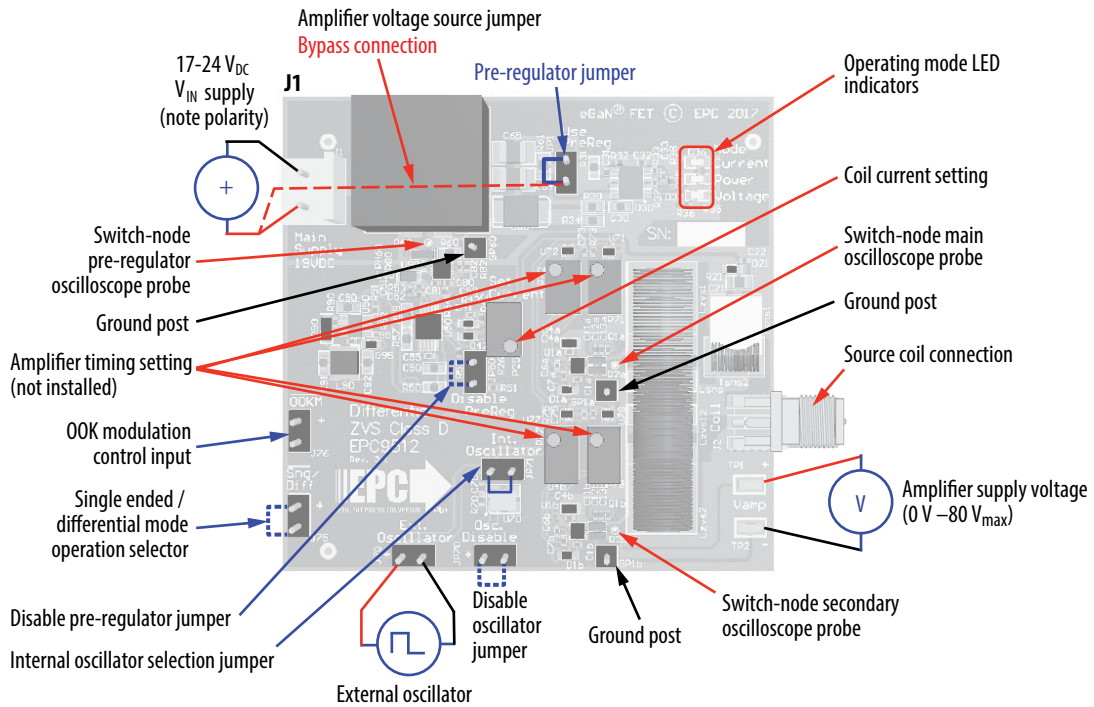

Figure 5: Proper connection and measurement setup for the amplifier board.
2. With power off, connect the main input power supply bus to J1 as shown in figure 5. Note the polarity of the supply connector.
2. With power off, connect the main input power supply bus +VIN to the bottom pin of JP1 and the ground to the ground connection J1 as shown in figure 5.